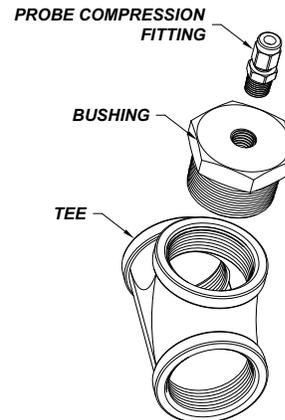

FIGURE 1
1. Using installer provided TEFLON tape assemble **Tee**, **bushing** and **probe compression fitting**. See **Figure 1**.